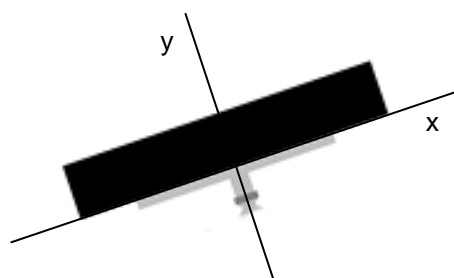

FIGURE 3 –
**I)** In your drawing, rotate your x-axis so that it is *parallel* to the platform and rotate the y-axis so that it is *perpendicular* to the platform. **See Figure 3.** Show the angle  $\theta$  as well as any components that you may need. Check with your TA if you are having trouble.